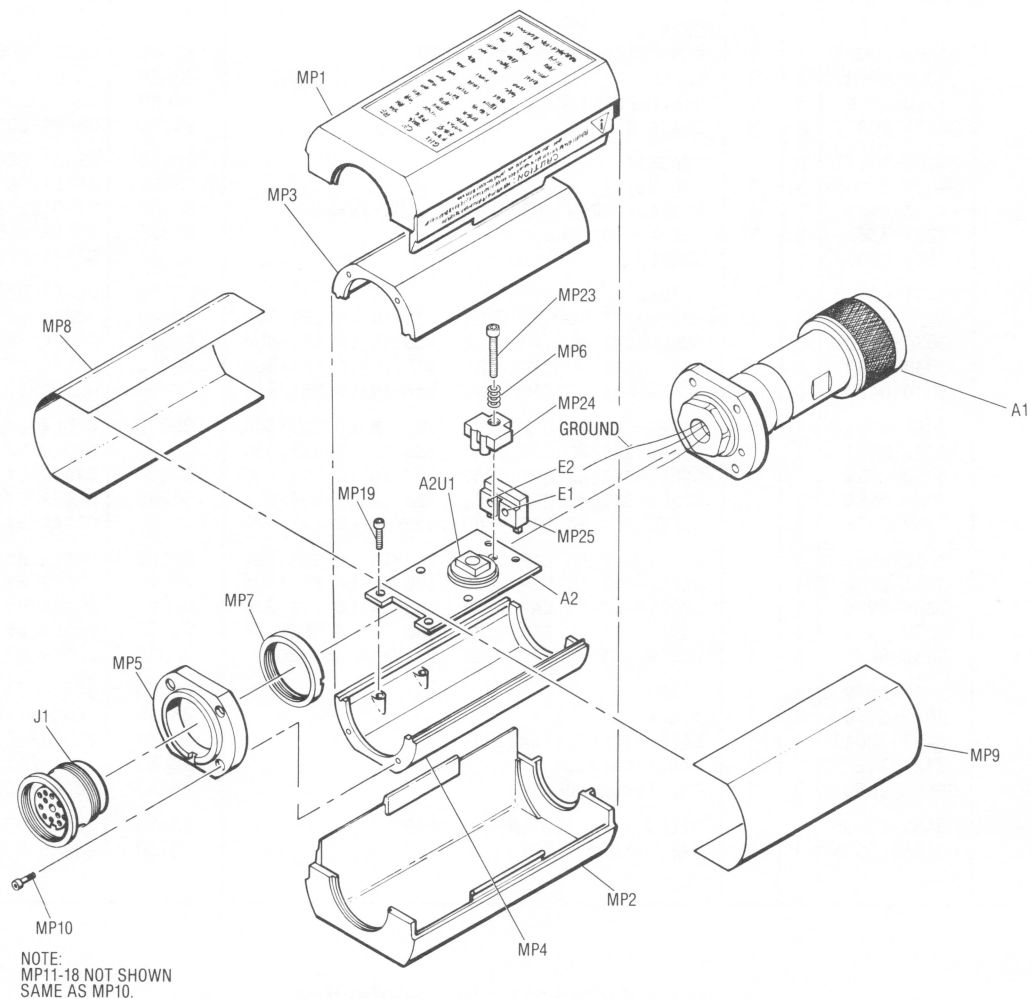
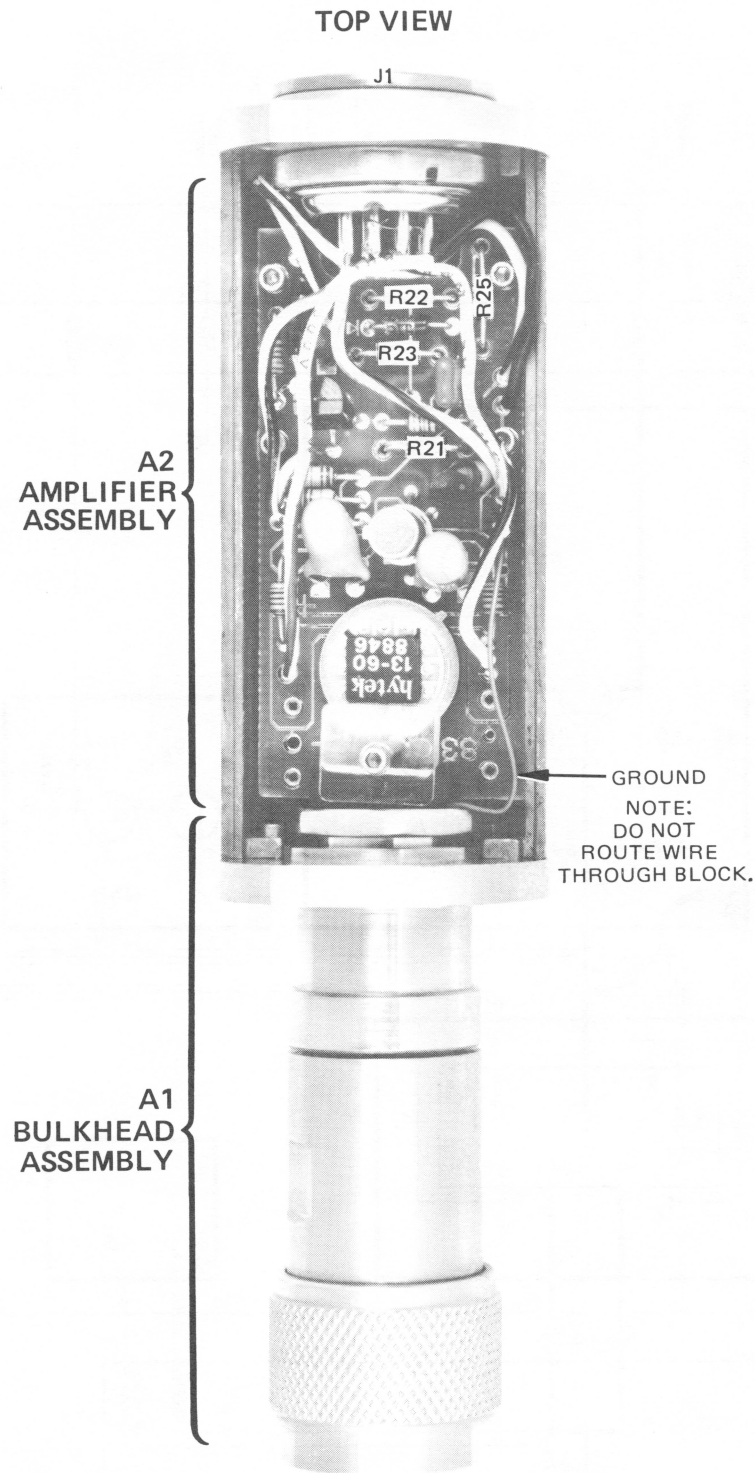

Figure 3. Illustrated Parts Breakdown
Figure 4. Component and Assembly Locations
Table 5 is a list of replaceable parts. Figure 3 is the illustrated parts breakdown (IPB) that identifies the major locations of the components on the A2 Input Amplifier Assembly are shown in Figure 4. To order a part, quote the Hewlett-Packard part number and Check Digit (CD), specify the quantity required, and address the order to the nearest Hewlett-Packard office.
2. Remove and discard the socketed resistors A2R21, A2R22, A2R23, and A2R25 (Figure 4).